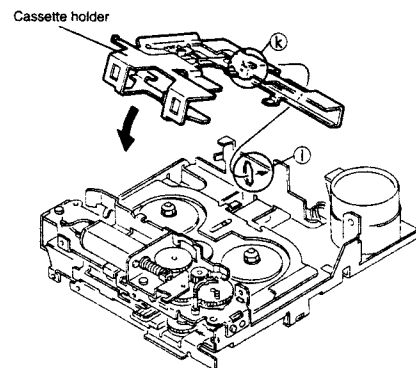

Fig. 23
3. Attach the cassette holder as shown in Fig. 23. In this case, first pass the tab of the section ⑧ through the mechanism ①, then attach the cassette holder in the direction shown by the arrow.